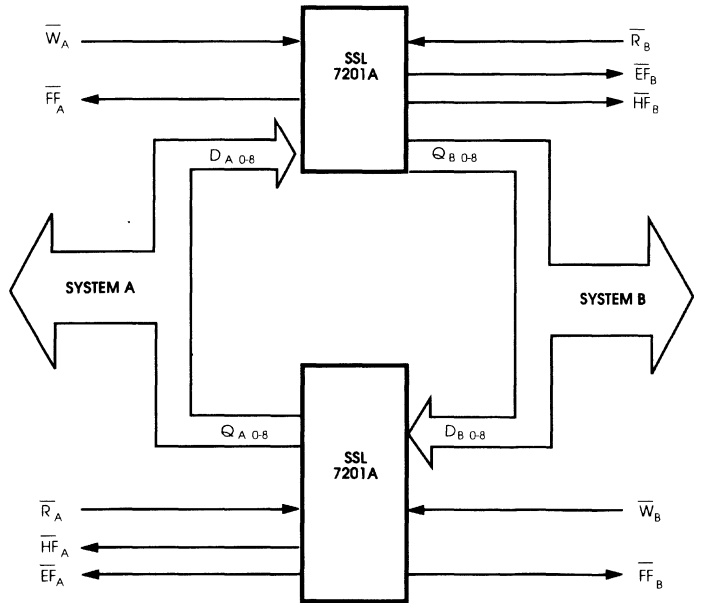

Figure 6. BIDIRECTIONAL FIFO MODE.
Applications which require data buffering between two systems (each system capable of read and write operations) can be achieved by pairing the FIFO devices as shown in Figure 6. Care must be taken to assure that the appropriate flag is monitored by each system; i.e. (FF) is monitored on the device where (W) is used and (EF) is monitored on the device where (R) is used. Both depth and width expansion may be used in this mode.